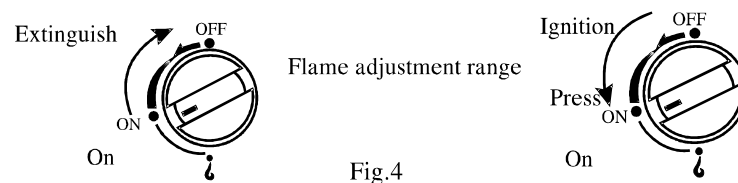

Fig.4
4. Flame can be adjusted between “ON” and OFF”. Please adjust flame slowly, should adjust the fire is under the direction opposite clockwise. (Fig.4)